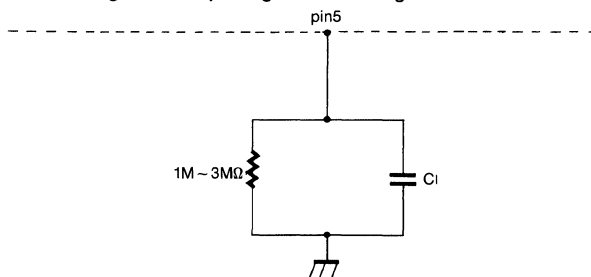

Fig. 3
- The current consumption within KA2413 can be reduced with a resistor connected in parallel with C1. (see Fig. 3)